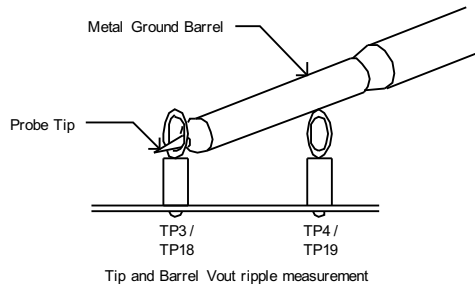

Figure 4-2. Tip and Barrel Measurement Technique (output ripple measurement using TP3 and TP4 or TP18 and TP19)
TPS54383EVM provides two test points for measuring the voltage generated by the module. This allows the user to measure the actual module output voltage without losses from output cables and connectors. All output voltage measurements should be made between TP3 and TP4. To use TP3 and TP4, connect a voltmeter positive terminal to TP3 and negative terminal to TP4. For Output ripple measurements, TP3 and TP4 allow a user to limit the ground loop area by using the Tip and Barrel measurement technique shown in Figure 4-2. All output ripple measurements should be made using the Tip and Barrel measurement.
TPS54383EVM provides two test points for measuring the voltage generated by the module. This allows the user to measure the actual module output voltage without losses from output cables and connector losses. All output voltage measurements should be made between TP18 and TP19. To use TP18 and TP19, connect a voltmeter positive terminal to TP18 and negative terminal to TP19. For output ripple measurements, TP18 and TP19 allow a user to limit the ground loop area by using the Tip and Barrel measurement technique shown in Figure 4-2. All output ripple measurements should be made using the Tip and Barrel measurement.
VIN: The input voltage source (VIN) should be a 0-15 V variable dc source capable of 5 A_{DC}. Connect VIN to J1 as shown in Figure 4-2.
Oscilloscope: A digital or analog oscilloscope can be used to measure the ripple voltage on VOUT. The oscilloscope should be set for 1-M Ω impedance, 20-MHz bandwidth, ac coupling, 1- μ s/division horizontal resolution, 10-mV/division vertical resolution for taking output ripple measurements. TP3 and TP4 or TP18 and TP19 can be used to measure the output ripple voltages by placing the oscilloscope probe tip through TP3 or TP18 and holding the ground barrel to TP4 or TP19 as shown in Figure 4-2. For a hands free approach, the loop in TP4 or TP19 can be cut and opened to cradle the probe barrel. Using a leaded ground connection may induce additional noise due to the large ground loop area.
4. Connect oscilloscope probe to TP3 and TP4 or TP18 and TP19 as shown in Figure 4-2.